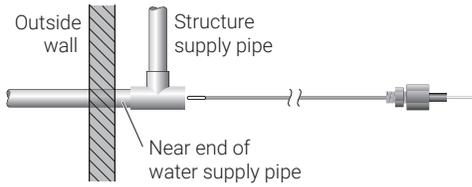
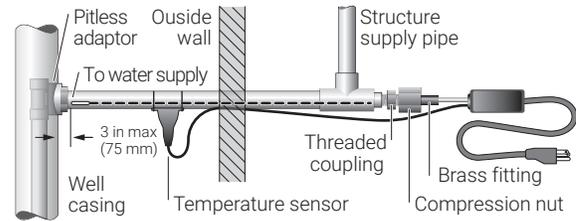
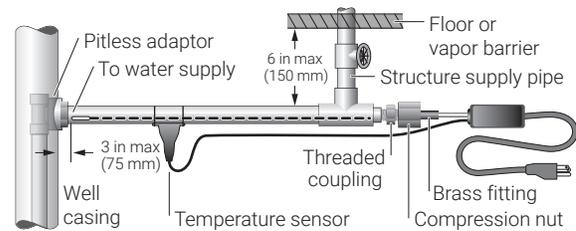

Figure 6
Figure 7
Figure 8
- Attach the tee assembly to the near end of the water supply pipe, per local codes. Be sure the tee is installed so that the cable will be able to pass straight through the tee and into the pipe with no bending required (see Figure 6).
- Attach structure supply pipe to the tee opening as shown in Figure 6, per local codes, using appropriate materials. If the cable will be installed as in Figure 8 and a shutoff valve will be used in this section of the pipe, the total length of unheated pipe (pipe plus valve without cable in it) must not exceed 6 in (150 mm).
Note: If this installation is for pipe supplying water to a manufactured home, the structure supply connection should be made underneath the vapor barrier supplied with the home, if possible (see Figure 8).
- Ensure adaptor and appropriate pipe fittings to accept threaded coupling are properly connected to the tee, per local codes, and fully insert the cable into the water supply pipe through remaining opening in tee assembly as shown in Figure 7 or Figure 8 as appropriate for the installation. If a valve or shutoff is installed at any point on the pipe, the heating cable must not pass through it. Proceed to Step 6.
- If no pipe has been added to the tee, ensure adaptor and appropriate pipe fittings to accept threaded coupling are properly connected to the tee, per local codes, and fully insert the cable into the water supply pipe through remaining opening in tee assembly as shown in Figure 7 or Figure 8 as appropriate for the installation.
- Fully extend temperature sensor cord and attach temperature sensor to pipe as shown in Figure 7 (for thru walls) or Figure 8 (for under floors) as appropriate for the installation, using tie-wraps provided. If installation is as shown in Figure 7, the temperature sensor **MUST** be attached to the pipe as far from the outside wall as possible.